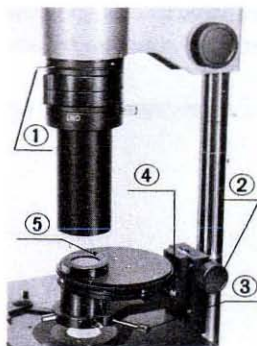
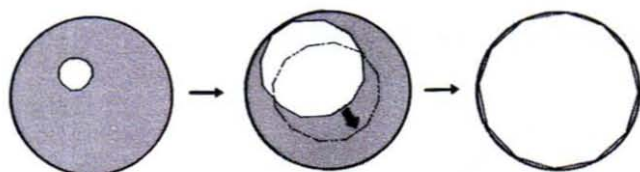

Fig. 10
Fig. 11
NOTE: It is suggested to stop down slightly the aperture iris diaphragm ⑤ for easier focusing (Fig. 10)
- 3) Stop down the field iris diaphragm to the minimum by means of the lever ①. Rotate the condenser height adjustment knob ② until the image of the field diaphragm is visible sharply in the field of view.
- 4) Bring the image of the field diaphragm into the center of the field by means of the condenser centering screw ③ (Fig. 10). Re-open the diaphragm until the small ring of the diaphragm becomes a larger polygonal ring around the circular edge of the field (Fig. 11).
- 9) Operate the centering screws ④ of the light annulus (Fig. 10) until light annulus and phase annulus are concentric and superimposed.